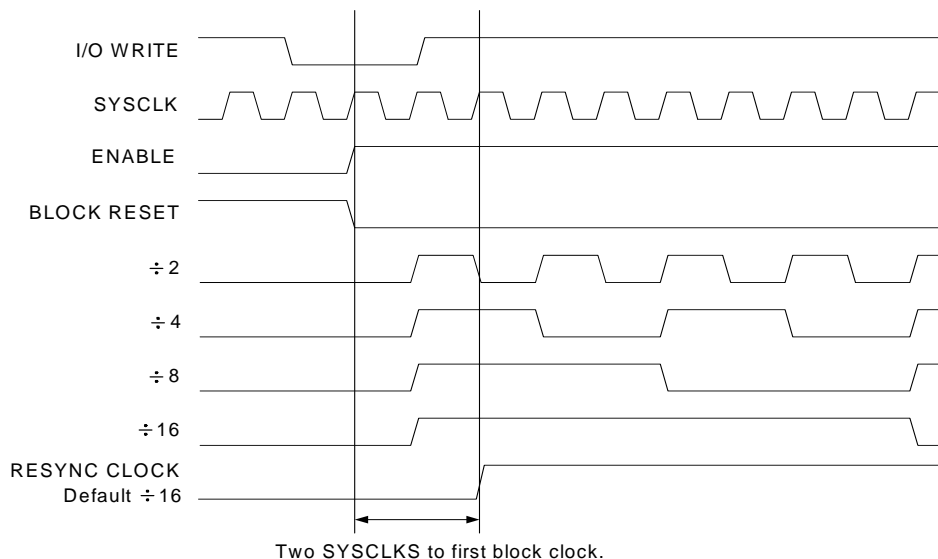

Figure 27-4. I2C Input Clocking
**Bit 0: Enable Slave.** When the Slave is enabled, the block generates an interrupt on any Start condition and an address byte that it receives, which indicates the beginning of an I2C transfer. When operating as a Slave, the block is clocked from an external Master and therefore, will work at any frequency up to the maximum defined by the currently selected Clock Rate. The internal clock is only used in Slave mode to ensure that there is adequate setup time from data output to the next clock on the release of a Slave stall. When the Enable Slave and Enable Master bits are both '0', the block is held in reset and all status is cleared. See Figure 27-4 for a description of the interaction between the Master/Slave Enable bits. Block enable will be synchronized to the SYSCLK clock input (see “Timing Diagrams” on page 284).
Figure 27-4 illustrates the I2C input clocking scheme. The SYSCLK pin is an input into a four-stage ripple divider that provides the baud rate selections. When the block is disabled, all internal state is held in a reset state. When either the Master or Slave Enable bits in the I2C\_CFG register are set, the reset is synchronously released and the clock generation is enabled. Two taps from the ripple divider are selectable ( $/4$ ,  $/16$ ) from the Clock Rate bits in the I2C\_CFG register. As an additional option, the block may be clocked directly from SYSCLK, to achieve the highest baud rate. If any of the two divider taps is selected, that clock is resynchronized to SYSCLK. The resulting clock is routed to all of the synchronous elements in the design.